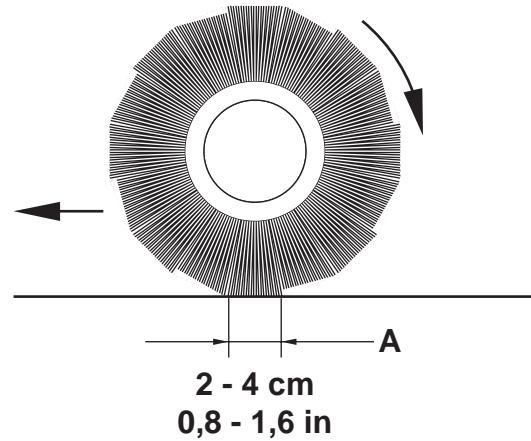

Figure 8
- Check that the main broom print (A, Fig. 8), along its length, is 2 to 4 cm wide.
If it is not possible to adjust the print (A, Fig. 8) properly, because the pressure on the floor at the ends of the broom is different, refer to the Service Manual.